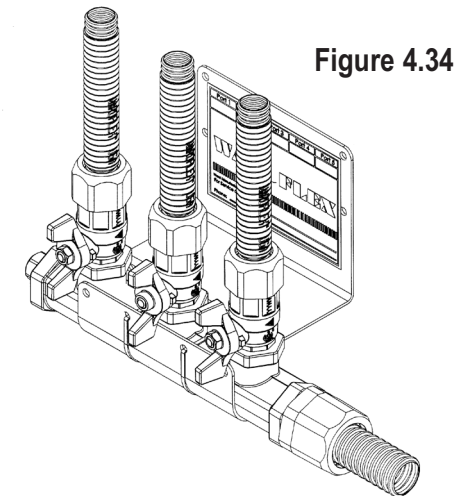

Figure 4.34
- Manifolds shall be rigidly installed and may be mounted in any orientation. Mounting can be done with mounting brackets (figure 4.34), supplied mounting holes on manifolds (if equipped) or rigid piping into a non-movable gas appliance.